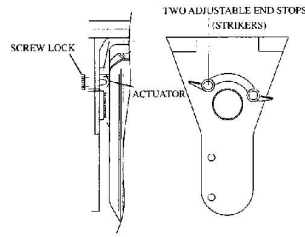

Figure 7
- b、 Setting the Tilt limits (see figure 7): Release the screw locks and adjust the strikers until they are at the position to strike the actuator, thus activating the limit switches.